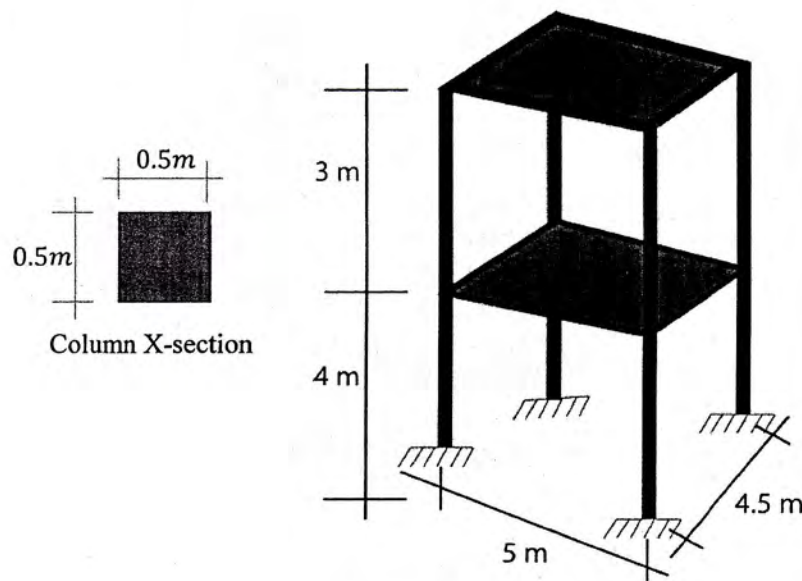

Figure 1
[8] A two storied RC building is shown in Figure 1. Determine the velocities of the building by using Constant Average Acceleration method at $t = 0.15$ sec. Given, $\begin{Bmatrix} x_1(0) \\ x_2(0) \end{Bmatrix} = \begin{Bmatrix} 0 \\ 0.01 \end{Bmatrix} \text{m}$, $\begin{Bmatrix} \dot{x}_1(0) \\ \dot{x}_2(0) \end{Bmatrix} = \begin{Bmatrix} 0.09 \\ 0.1 \end{Bmatrix} \frac{\text{m}}{\text{sec}}$, $\begin{Bmatrix} p_1 \\ p_2 \end{Bmatrix} = \begin{Bmatrix} e^{2t} + 4 \\ e^{3t} + 2 \end{Bmatrix} \text{N}$, $C = [0.05M + 0.07K] \frac{\text{N-s}}{\text{m}}$, $E = 2 \times 10^4 \text{MPa}$, slab thickness is 0.15m . (20)